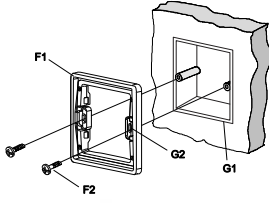

图 4 / Figure 4
- 通过安装孔和螺丝 (F2) 将安装框 (F1) 安装到接线盒 (G1) 上 (参见图 4)。
- Mount the mounting frame (F1) onto conduit box (G1) via mounting slots with mounting screws (F2) (see figure 4),